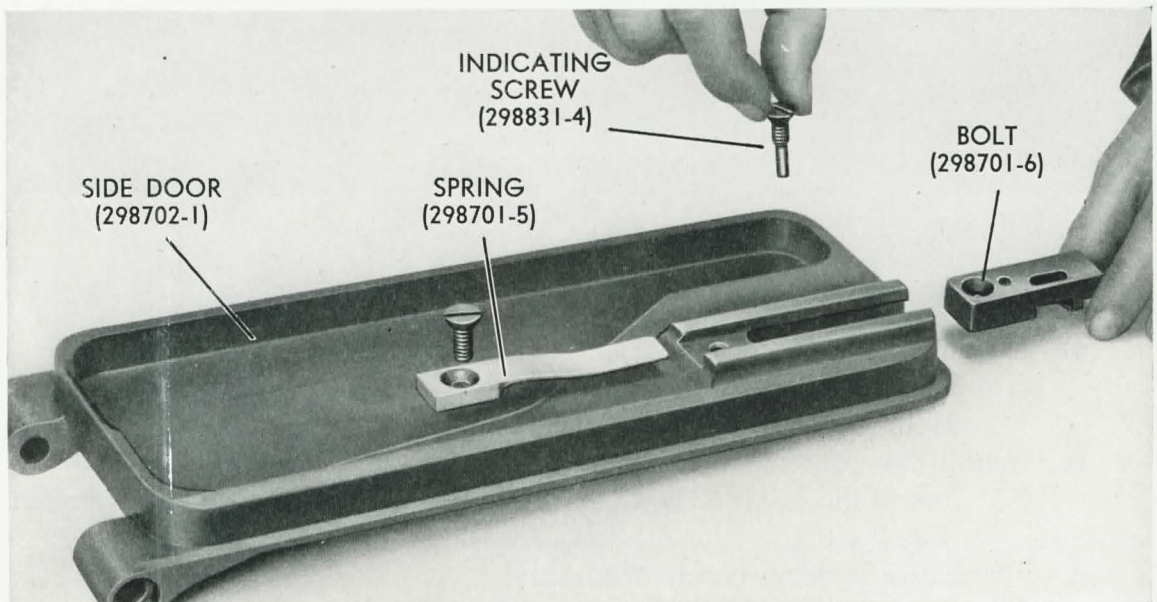

Figure 81
- (1) Open the side door with the key.
- (2) Remove the door hinge bolt and take off the door assembly.
- b. Remove the catch, **Figure 81**.
- (1) Remove the spring retaining screw and slide the spring out toward the door hinge.